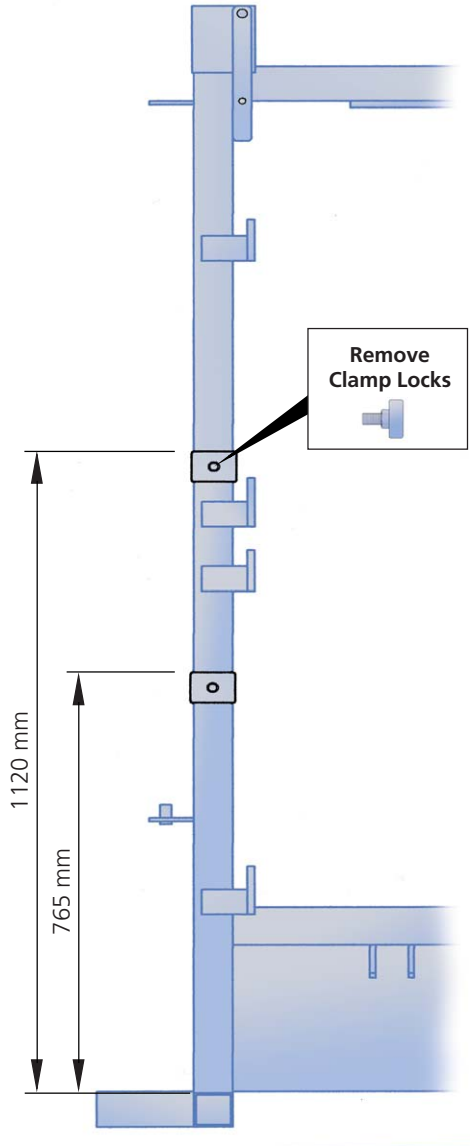

Fig 1
- On the existing cattle crate, tack weld the upper bracket centrally on the post, at the height given, Fig 1.